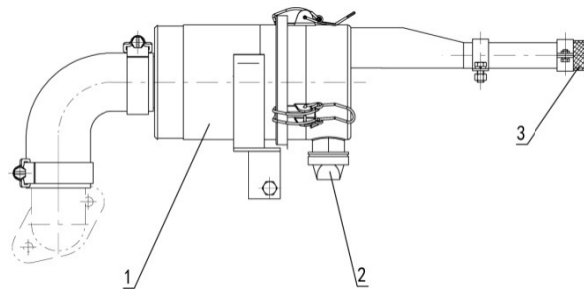

Fig. 6-14 Air filter
① The structure and air flowing chart are shown in Fig. 6-14. Air is absorbed in from the intake port on the upper part of air filter. The torsion angle makes the air whirling. The bigger particle is thrown off to the bottom because of the centrifugal force and files up.